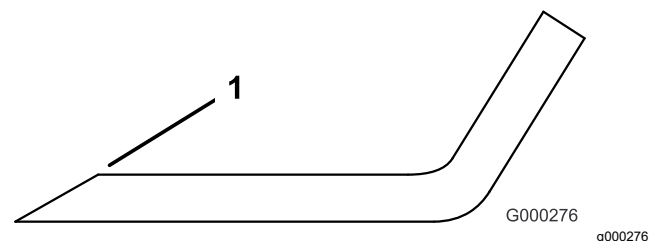

Figure 125
3. Examine the cutting edges of all of the blades and sharpen the cutting edges if they are dull or nicked (Figure 125).
**Note:** Sharpen only the top of the cutting edge and maintain the original cutting angle to ensure sharpness (Figure 125). The blade remains balanced if you remove the same amount of metal from both cutting edges.